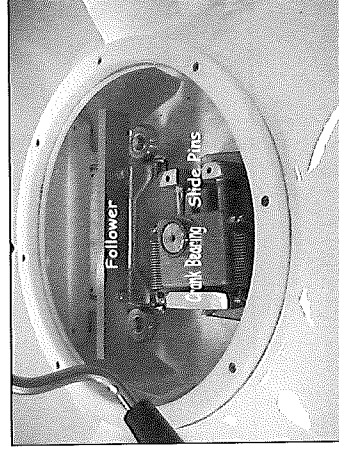

Figure 25
7. To service crank bearings, slide pins, and follower (Fig. 25), remove crank plate, page 14, Item 37, by removing the forward center plastic plug. Item 2, and hex shoulder bolt, Item 1 from the crank plate. To do this, the silicone in the center of the plug must be pried out, then insert the bolt provided with your warranty packet into the plug, and turn clockwise until the plug can be removed. After removing the hex shoulder bolt, grasp both sides of the crank plate and lift. (See maintenance schedule, page 10) Replace crank plate and shoulder screw. Remove bolt from plug and tap plug back into crank plate until flush with surface. Apply a small amount of silicone into hole in plug. Save the bolt for future use.